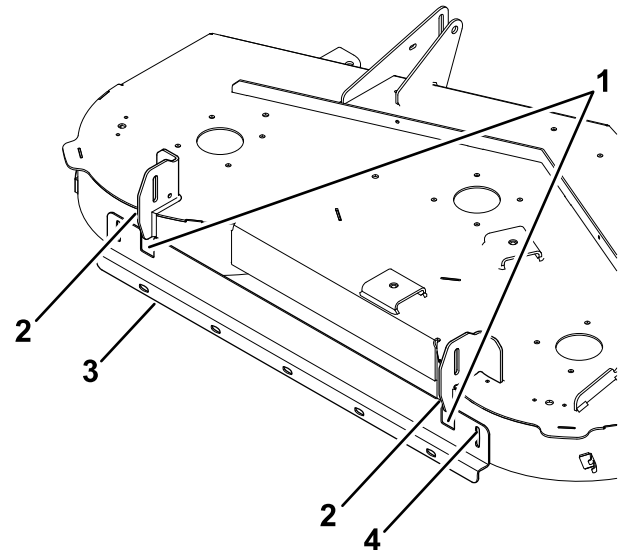

Figure 9
4. Using the striping bracket as a template, mark and drill a hole in the right baffle curve using a drill bit (9/32 inch) as shown in Figure 9.